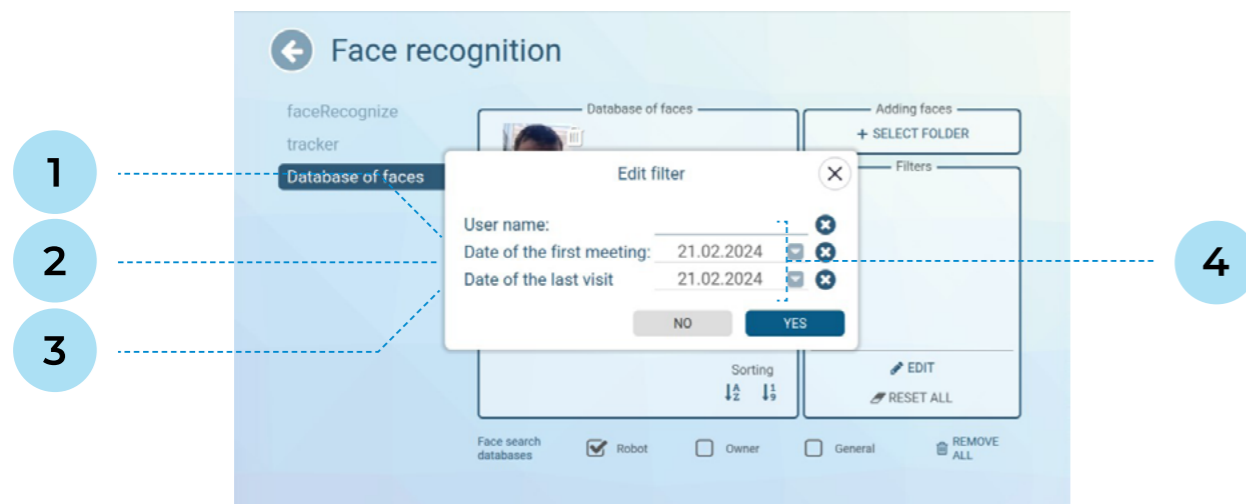

Fig. 6.18. Facial filter editing in the database
- Edit** — button for editing filters (Fig. 6.18).